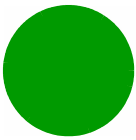

**Figure 2-18: GPS Bottom View**
- 5 Insert the GPS cable (side labeled GPS) into the sealing gland base (Figure 2-17) and connect it to the RJ-45 connector at the bottom of the GPS (Figure 2-18).